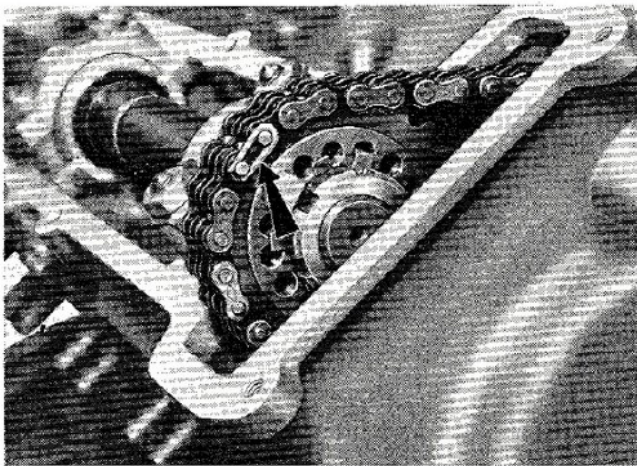

Fig. 37. - Upper timing chain link retainer.
- See if the timing chain removable link is in a visible and accessible position (fig. 37), if not, turn flywheel until the alignment of reference marks and the correct location of chain removable link are coincident.
- Install the upper chain, locating the removable link retainer in the position shown in fig. 37, and stretch the chain as instructed on next page. Using a graduated sector, and turning the flywheel, check that the advance and retard angles, respectively at opening and closing of intake and exhaust, correspond to the ones specified on the timing diagram in reference to the 0,30 mm (.012") and 0,35 mm (.014") clearances, respectively for the intake and exhaust valves.